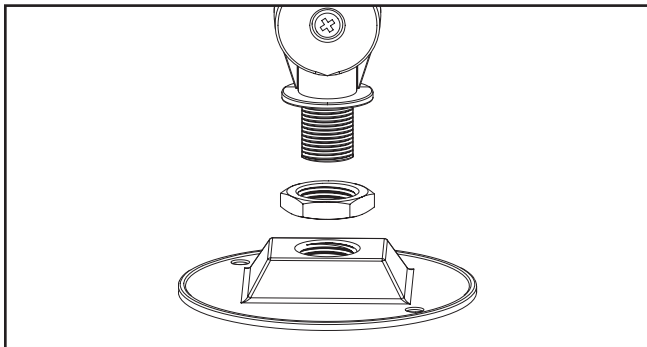

Figure 2.
2. Route electrical leads through the 1/2" NPS access hole in cover plate (supplied by others). Secure knuckle to cover plate with lock nut. Adjust aiming angle of the fixture by loosening the lock nut. Re-tighten the lock nut to the cover plate at 48 in-lbs using a crowfoot wrench. (Figure 2.)